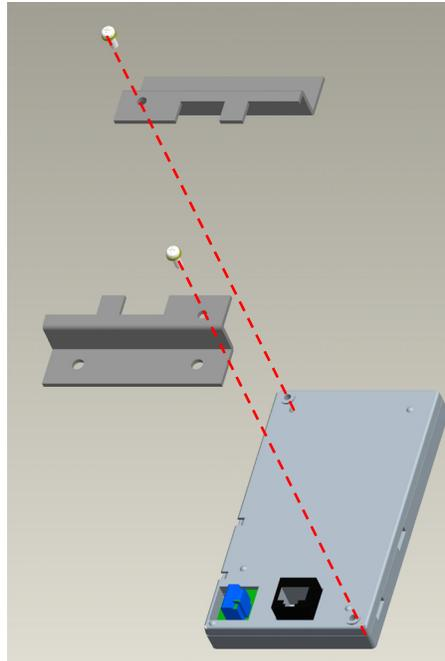

Figure 2 – Z-Bracket Subassembly
4. Assemble each Z-Bracket (qty. 2) to the backside of the Digital Operator (not included in kit). Use the provided M3x6 screws and tighten to 7 lb-in (0.79 N-m). See Figure 2 below.